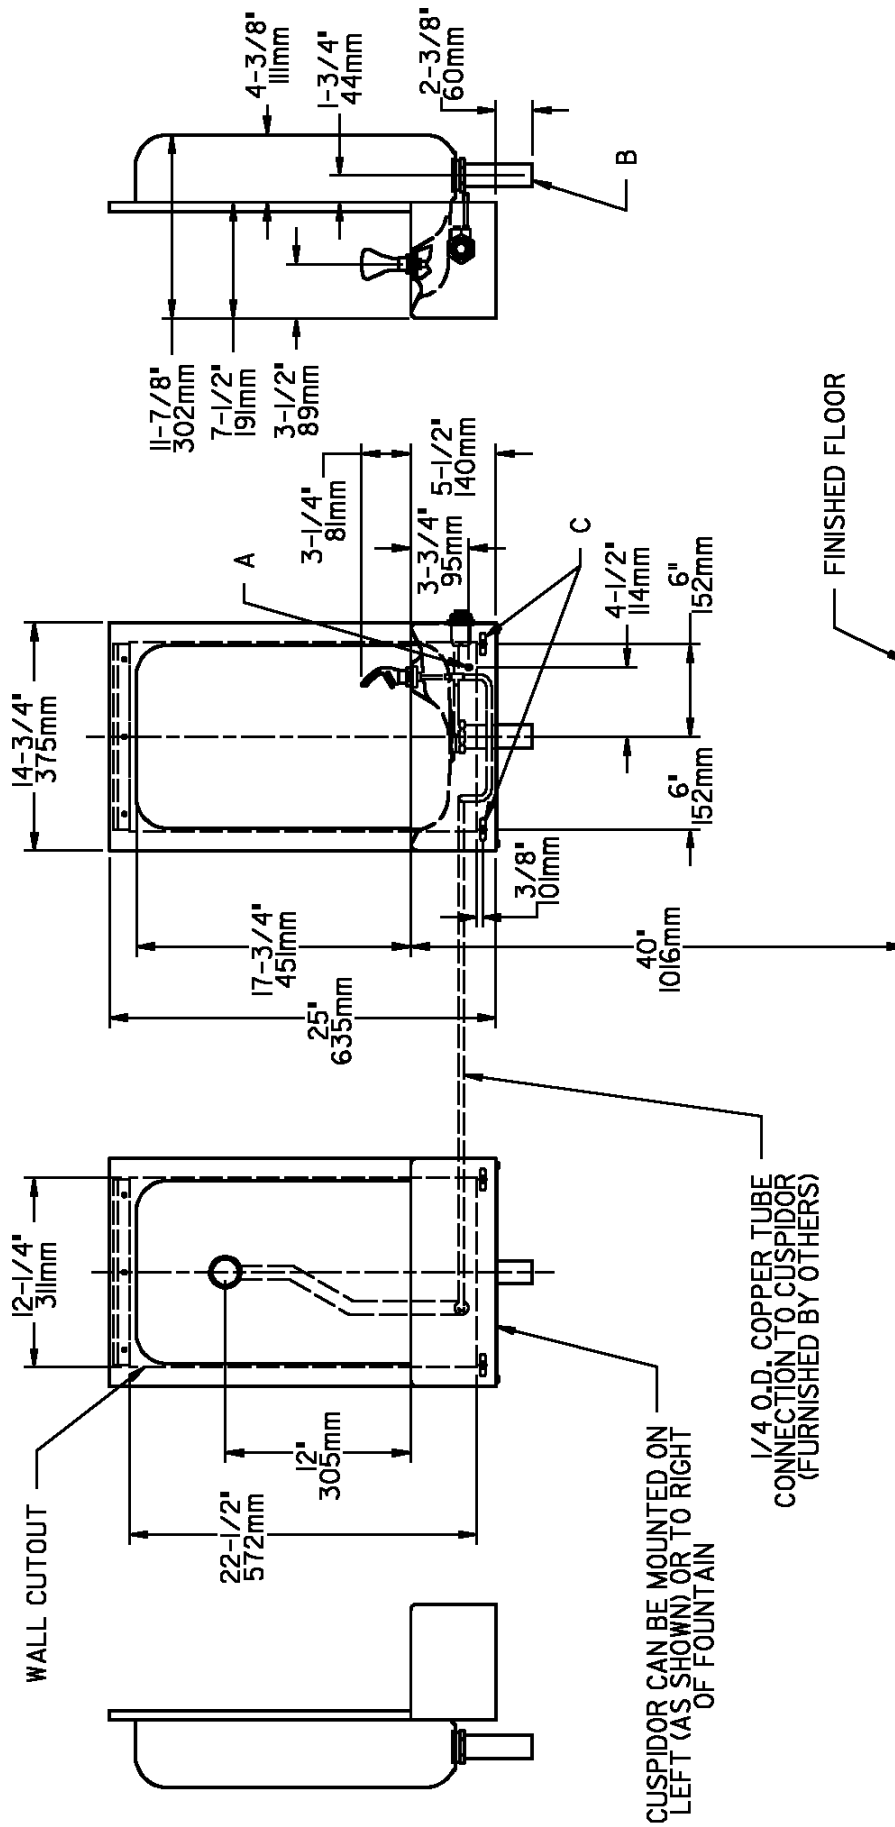

FIG. 1
2. Prepare waste connection(s) and water supply hookup connection. Refer to roughin drawing for location details (See Fig. 1).